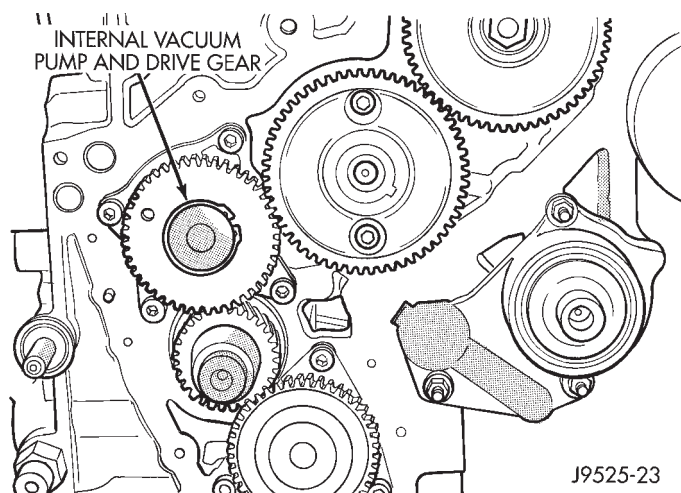

Fig. 3 Internal Vacuum Pump
- The vacuum pump supplies vacuum for the EVM and the EGR valve. This pump also supplies vacuum for operation of the power brake booster. The pump is located internally in the front of the engine block (Fig. 3) and is driven by the crankshaft gear.